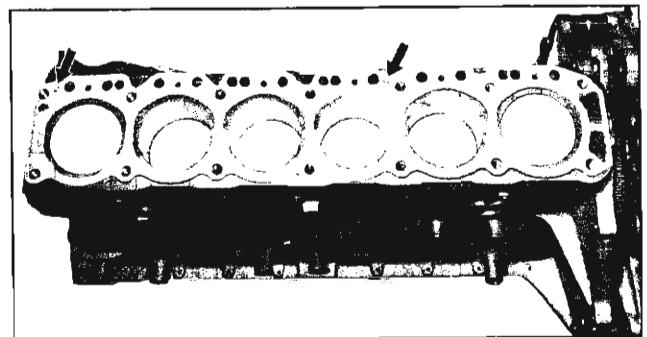

Fig. 22—Installing Head Gasket
1. Place a new cylinder head gasket in position over dowel pins in cylinder block (fig. 22).